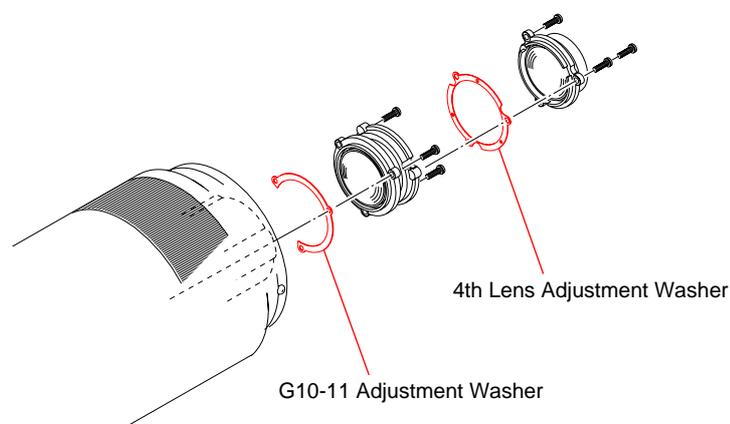

Fig.4-5-2
- 1) Adjust the 4th lens adjustment washer thickness according to the result of step 3) in “2. Checking Method”. (Refer to Table 4-5-1 and Fig.4-5-2.)